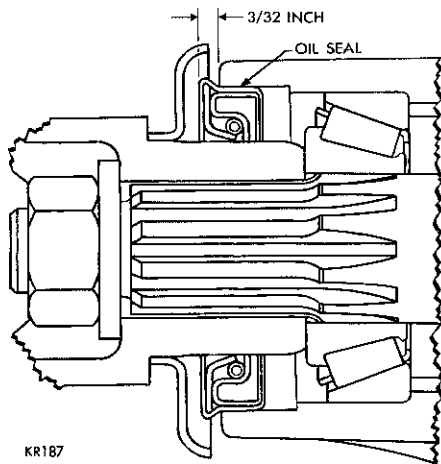

Fig. 30—Pinion Oil Seal Installed
(2) Position the rear bearing cone on the pinion shaft (small end away from the pinion gear). Make certain that the contacting surfaces of the correct washer, pinion gear, and rear bearing cone are perfectly clean and free of any foreign particles.
(3) Install the rear bearing cone onto the pinion shaft with Tool DD-996. An arbor press may be used in conjunction with the tool.
(4) Install the bearing tubular spacer on the pinion shaft (large bore facing the rear bearing).
(5) Install the selected shim pack.
(6) Lubricate the front and rear pinion shaft bearing cones with Multipurpose Gear Lubricant.
(7) Install the front bearing in its cup in the carrier.
(8) Install the oil seal in the carrier with driver Tool C-3656, lip of seal must face the front bearing. The seal must be driven into the carrier until the tool bottoms against the front pinion bearing cone (Fig. 30).
(9) Insert the pinion shaft up through the carrier.